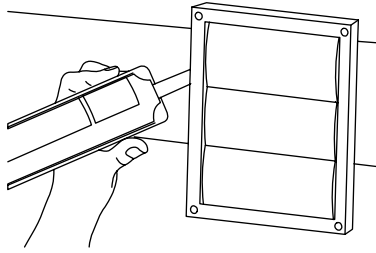

Fig. 11 — Seal Hoods
6. Using a caulking gun, seal around the hoods to prevent any leaks. See Fig. 11.